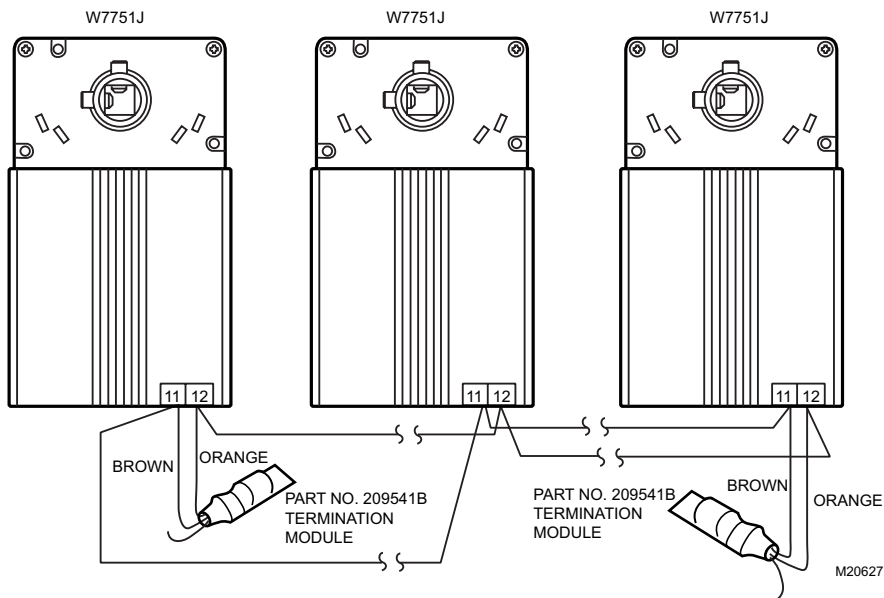

Fig. 14. Termination modules.
- For example, using doubly terminated daisy-chained bus topology, if devices are on either end of a LonWorks® Bus wire run, mount the termination module on the appropriate terminals. (See Fig. 14.)